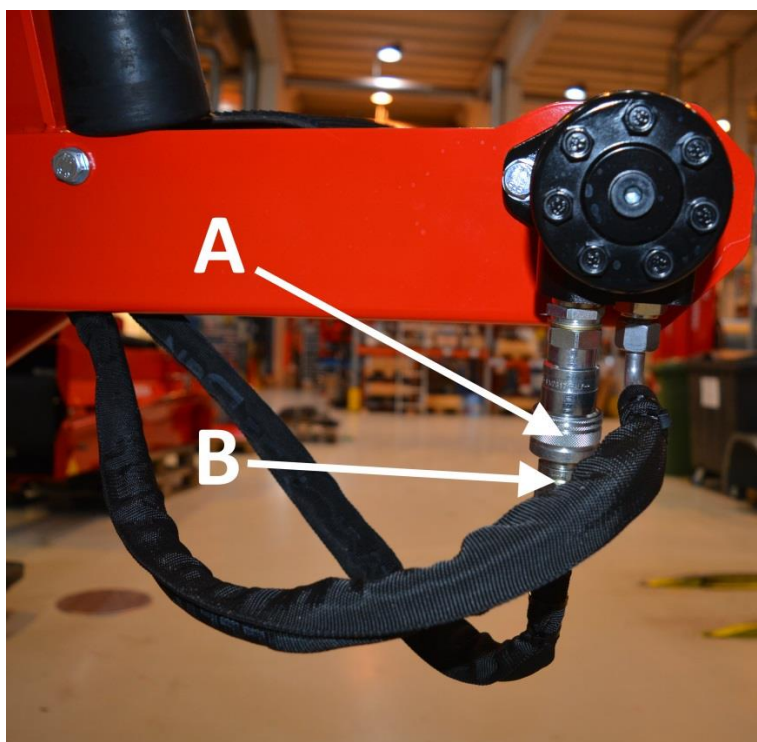

Figure 19.
2. Remove hose B from quick coupling A (Figure 19).